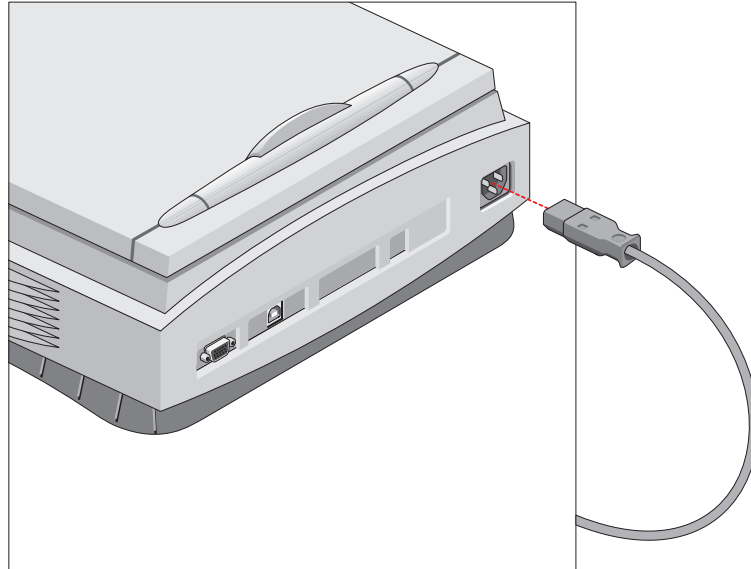

Figure 1
- 1. Connect the power cord to your scanner (Figure 1).